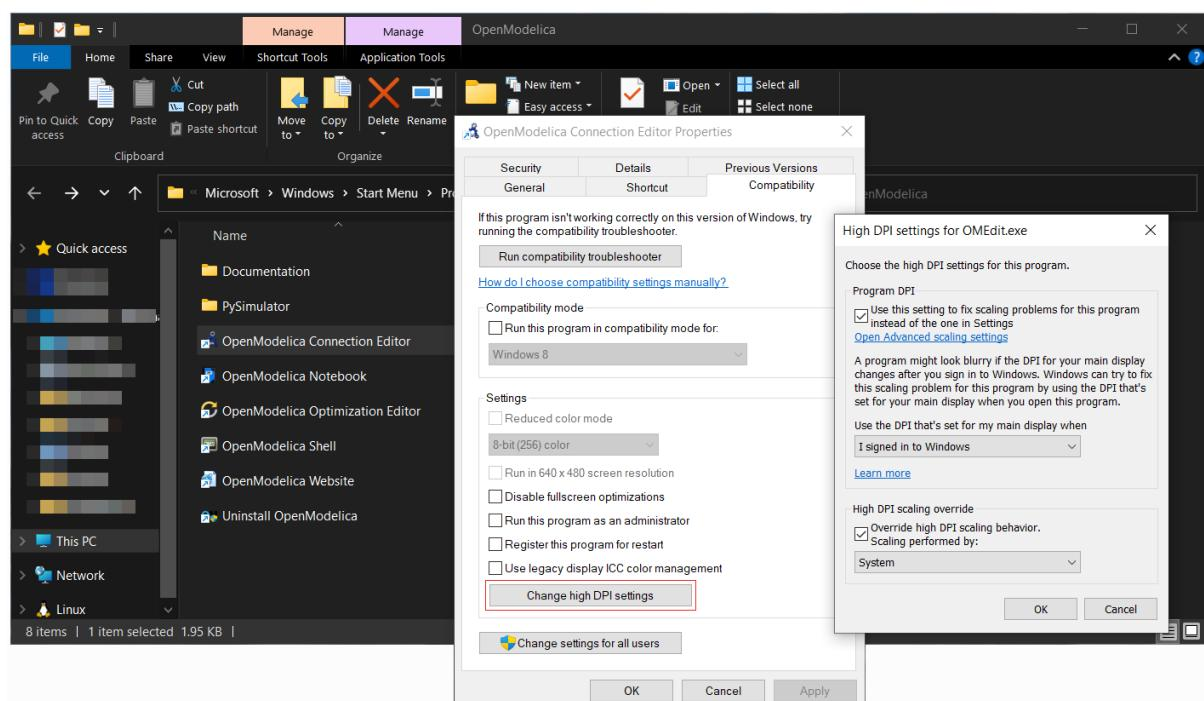

Figure 3.25: Change high DPI settings for OMEedit.exe
3. In the properties window go to tab *Compatibility* and open *Change high DPI settings*. In the *High DPI settings for OMEdit.exe* choose *Use the settings to fix scaling problems for this program instead of the one in Settings* and *Override high DPI scaling behavior*. *Scaling performed by:* and choose *System* from the drop-down menu, Figure 3.25.